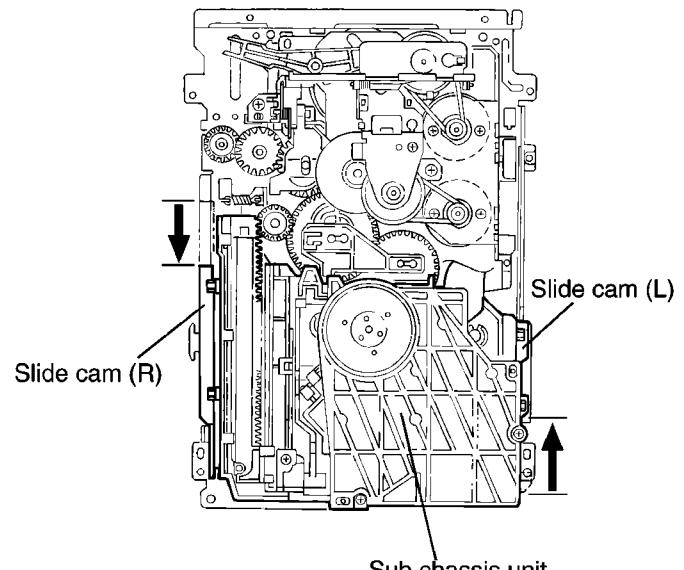

Fig.10
■ Removing the sub chassis unit (See Fig.10 to 12)
- Prior to performing the following procedures, remove the servo control board, the top cover, the tray unit, the side unit (L) and the side unit (R).
- Turn the hook gear counterclockwise to move the slide hook and the slider (R) backward until they stop.
- Slide the slide cam (L) and the slide cam (R) in the direction of the arrow until they stop.